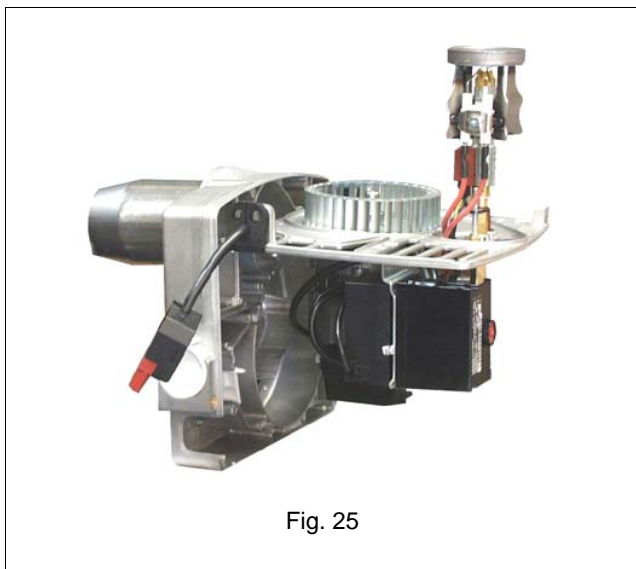
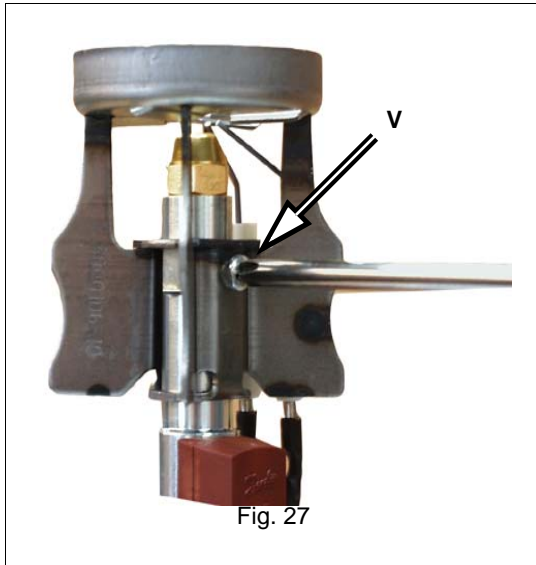
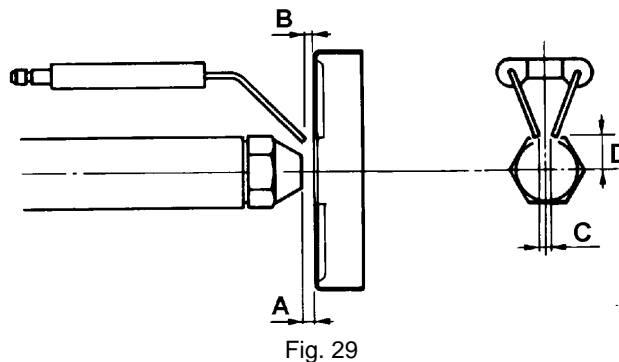

Fig. 25
Fig. 27
Fig. 29
- disassemble, check and clean of the combustion head. When re-assembling carefully observe the measures quoted in Fig. 29;
Before disassembling the nozzle and the electrodes, disconnect the cables CV (Fig. 27), measure the positions quoted in Fig. 29 and make a note in the table on Tab. 6.
⚠ In order to remove the nozzle, it is important to use two wrenches as shown in Fig. 25, to avoid damaging the burner component plate!
- 7 Unscrew the V screw that fastens the combustion head and remove the head from the nozzle-holder (Fig. 27 - Fig. 25)
Reassemble the combustion head by respecting the position "A" measured previously, making sure to fasten the V screw (Fig. 27)
Before disassembling the nozzle, measure the real position "A" (see Fig. 29) and make a note in the table below.